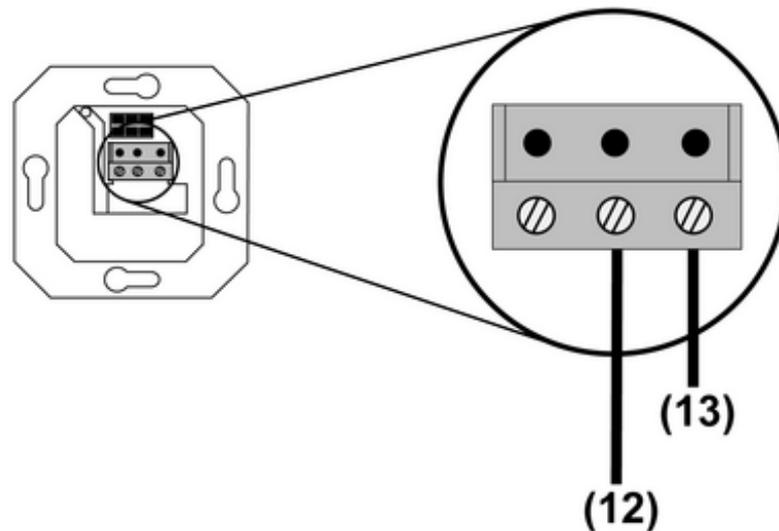

Figure 3
- Connect sensor cable to the terminal block in the blind insert in accordance with connection diagram (Figure 3).